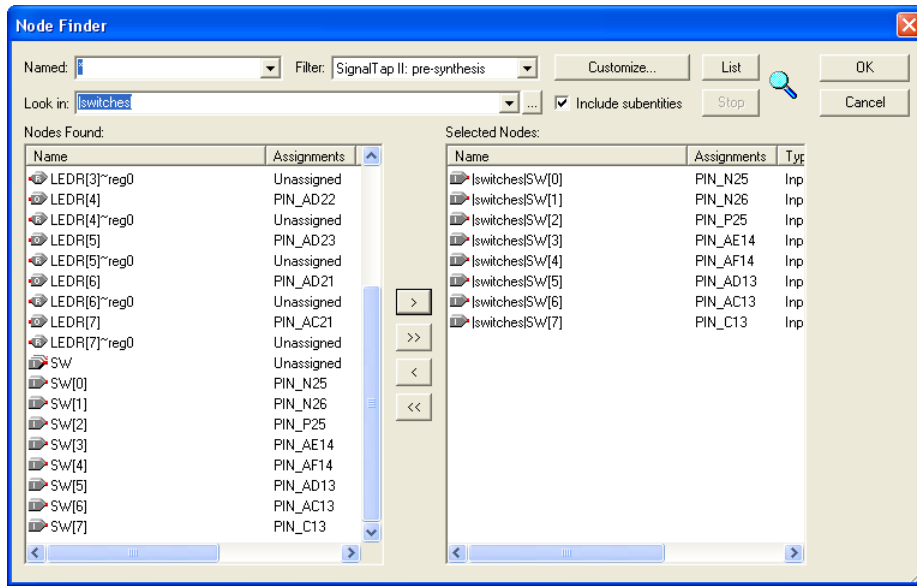

Figure 7. Adding nodes in the Node Finder window on a DE-series board.
3. We now need to add the nodes in the project that we wish to probe. In the Setup tab of the SignalTap II window, double-click in the area labeled Double-click to add nodes, bringing up the Node Finder window, as shown in Figure 7. For the Filter field, select SignalTap II: pre-synthesis. Click List. This will now display all the nodes that can be probed in the project. Highlight SW[0] to SW[7], and then click the > button to add the switches to be probed. Then click OK.